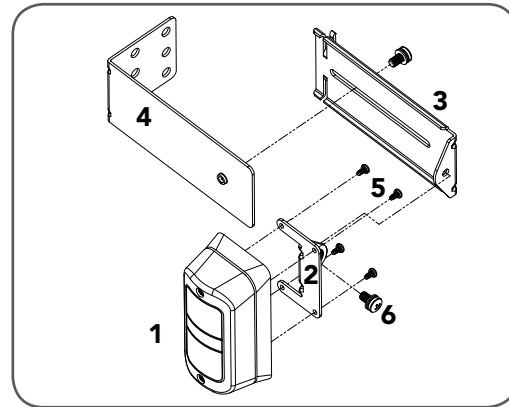

fig 45
- Attach the mounting bracket (4) to adjustment bracket (3) with the pan head screw (6) (supplied) (Fig. 45).
- Attach the PE 2000TS bracket (2) to PE beam transmitter (IR-200TS-TX) with four tapite screws (m3x5) and attach the other side to adjustment bracket (3) with the pan head screw (6) (supplied).